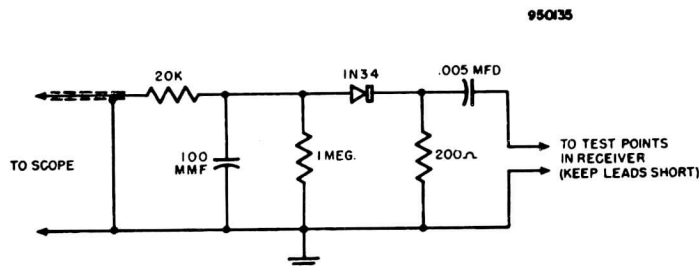

Figure 5-6—Scope Detector Network
**e. SCOPE DETECTOR:** Required for alignment of over-coupled first i-f T1. See figure 5-6.